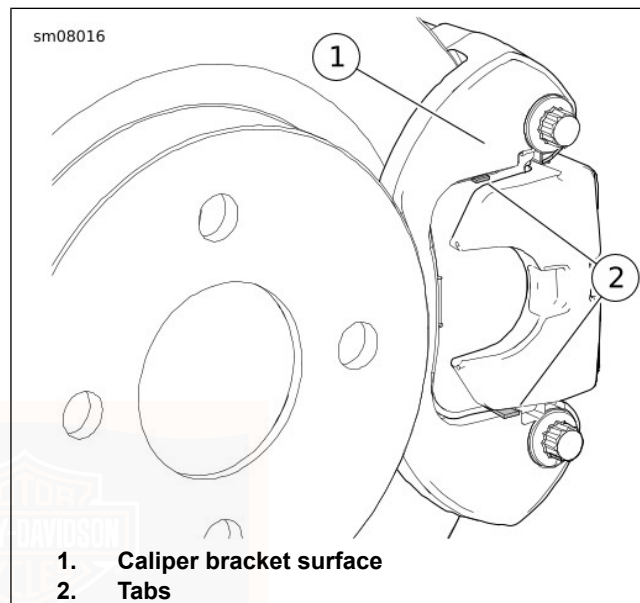

Figure 65. Rear Brake Pad Inspection
4. See Figure 65. Compare the end of tabs (2) to the surface of the outboard caliper bracket (1). If tab is flush or below surface, see a Harley-Davidson dealer.